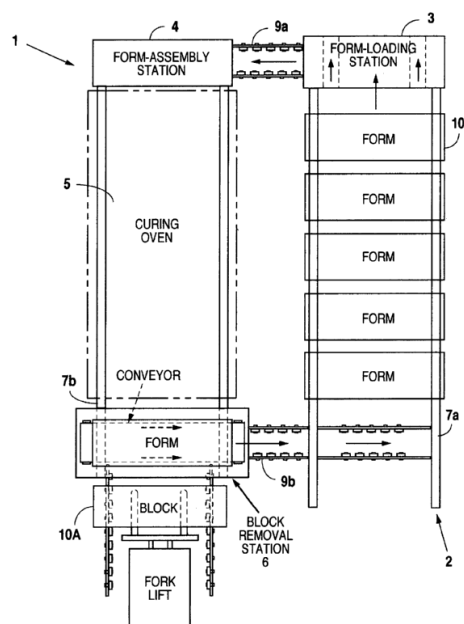

Fig. 10
U.S. Patent **June 6, 1978** **Sheet 3 of 3** **4,093,174****FIG. 10**